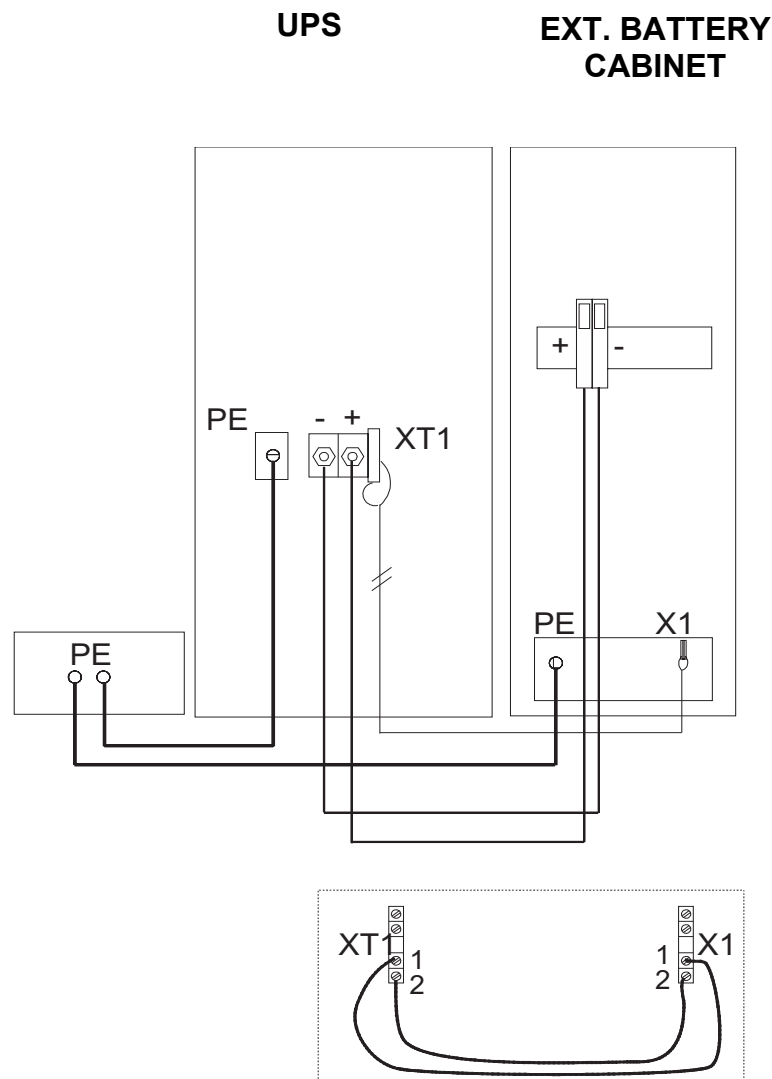

Figure 7 - External Battery Connections
- Make the ground connections (PE).
- Connect the cable for the temperature sensor between terminals XT1.1 and XT1.2 of the UPS terminal block and terminals X1.1 and X1.2 of the battery cabinet (Fig. 7).